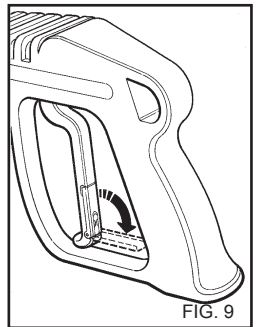

FIG. 9
⚠ When the water cleaner is not used, close the safety device on the handle (fig. 9).
- 1) For environmental compatibility, we recommend a reasonable use of detergents (fig.9), according to the instructions on the pack.